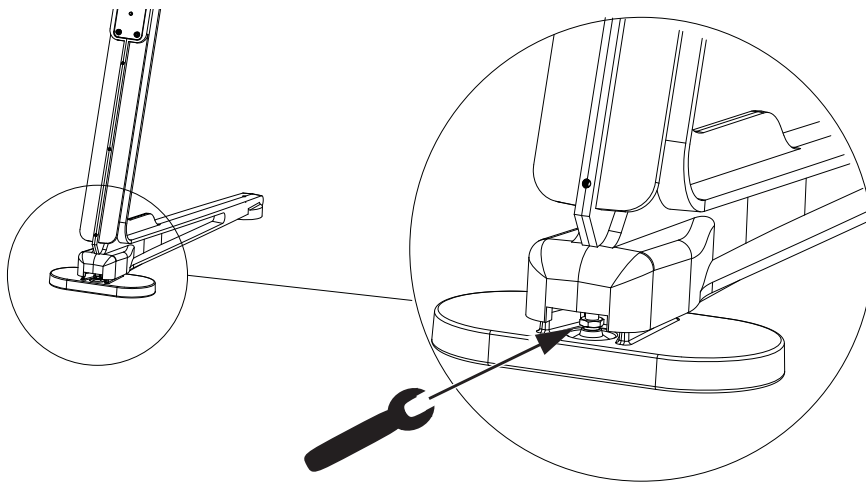

Figure 10. Back Leg Leveler
- 3 Raise or lower the back of the Leg as needed, using the 13 mm open end wrench included with the Legs (see Figure 10). When looking down at the feet from above, turn the wrench clockwise to raise or counterclockwise to lower.